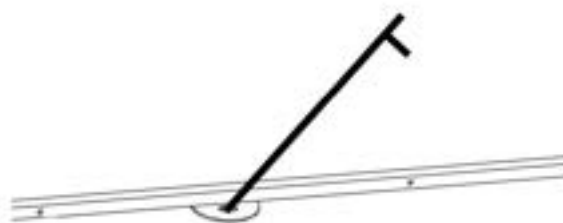

Figure 13.
**Step 13.** Your Buck Blind comes with four anchor stakes one for each anchor point on the bottom main frame, they need to be hammered all the way into the ground at approximately a 45 degree angle as in Figure 13.